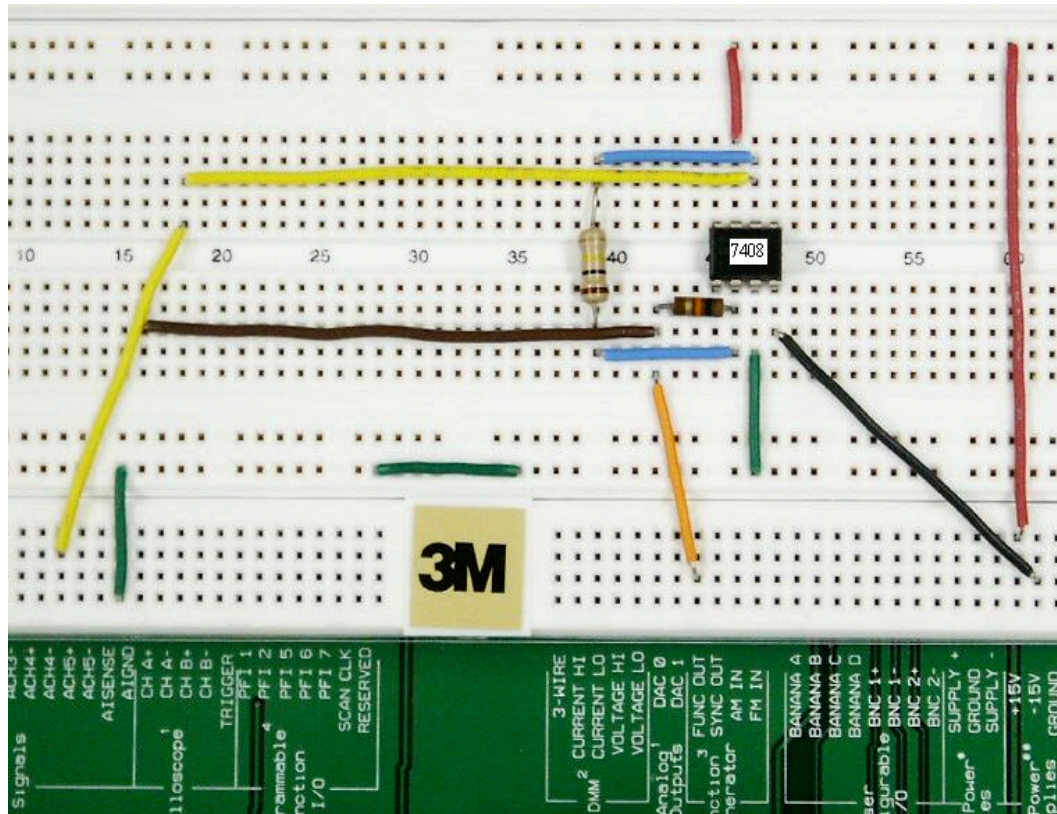

Figure 2. Component Layout for AND gate
- Connect the circuit as shown in figure 2 on the NI ELVIS Prototyping board. Pin 1 of chip 7408 is connected to DI 0 and pin 2 is connected to DI 1, output of the AND gate is connected to LED 0. Apply +5V to pin 14 and GROUND to pin 7.